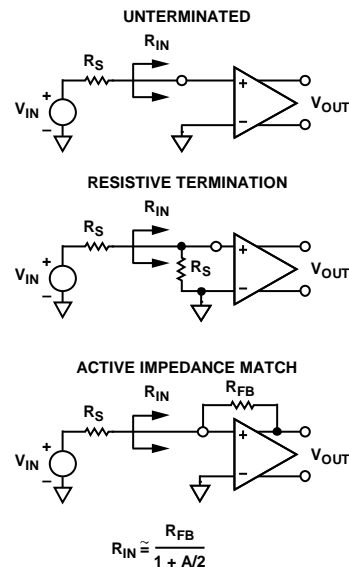
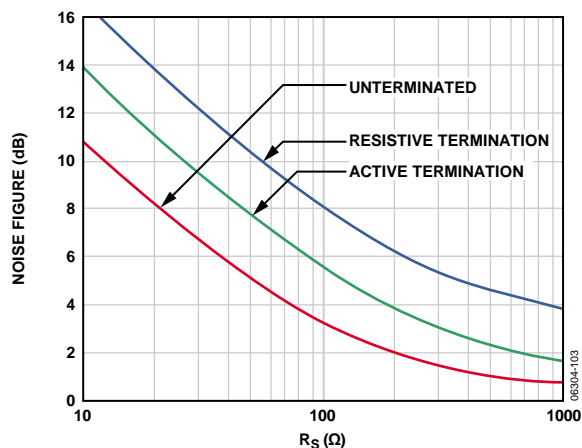
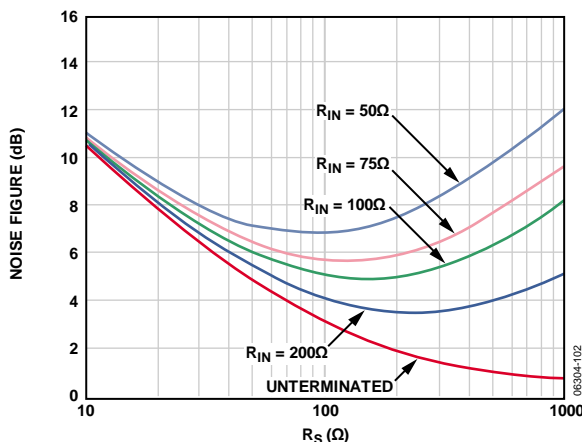

Figure 43. Input Configurations
Figure 44. Noise Figure vs. R_S for Resistive Termination, Active Termination Matched, and Unterminated Inputs, $V_{Gain} = 1\text{ V}$, 15.6 dB LNA Gain
Figure 45. Noise Figure vs. R_S for Various Fixed Values of R_{IN} , Active Termination Matched Inputs, $V_{Gain} = 1\text{ V}$, 15.6 dB LNA Gain
The short-circuit noise voltage (input-referred noise) is an important limit on system performance. The short-circuit noise voltage for the LNA is 1.2 nV/√Hz or 1.4 nV/√Hz (at 15.6 dB LNA gain), including the VGA noise. These measurements, which were taken without a feedback resistor, provide the basis for calculating the input noise and noise figure (NF) performance of the configurations shown in Figure 43. Figure 44 and Figure 45 are simulations of noise figure vs. R_S results using these configurations and an input-referred noise voltage of 4 nV/√Hz for the VGA. Underterminated (R_{FB} = ∞) operation exhibits the lowest equivalent input noise and noise figure. Figure 45 shows the noise figure vs. source resistance rising at low R_S—where the LNA voltage noise is large compared with the source noise—and at high R_S due to the noise contribution from R_{FB}. The lowest NF is achieved when R_S matches R_{IN}.
The primary purpose of input impedance matching is to improve the transient response of the system. With resistive termination, the input noise increases due to the thermal noise of the matching resistor and the increased contribution of the LNA's input voltage noise generator. With active impedance matching, however, the contributions of both are smaller (by a factor of $1/(1 + \text{LNA Gain})$) than they would be for resistive termination. Figure 44 shows the relative noise figure performance. In this graph, the input impedance was swept with R_S to preserve the match at each point. The noise figures for a source impedance of $50\ \Omega$ are 7.1 dB, 4.1 dB, and 2.5 dB for the resistive termination, active termination, and unterminated configurations, respectively. The noise figures for $200\ \Omega$ are 4.6 dB, 2.0 dB, and 1.0 dB, respectively.
Figure 45 shows the noise figure as it relates to R_S for various values of R_{IN} , which is helpful for design purposes.